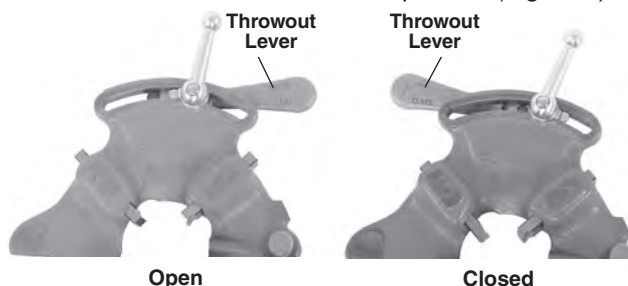

Figure 6 – Open/Closed Lever Position
2. Move throwout lever to OPEN position (*Figure 6*).